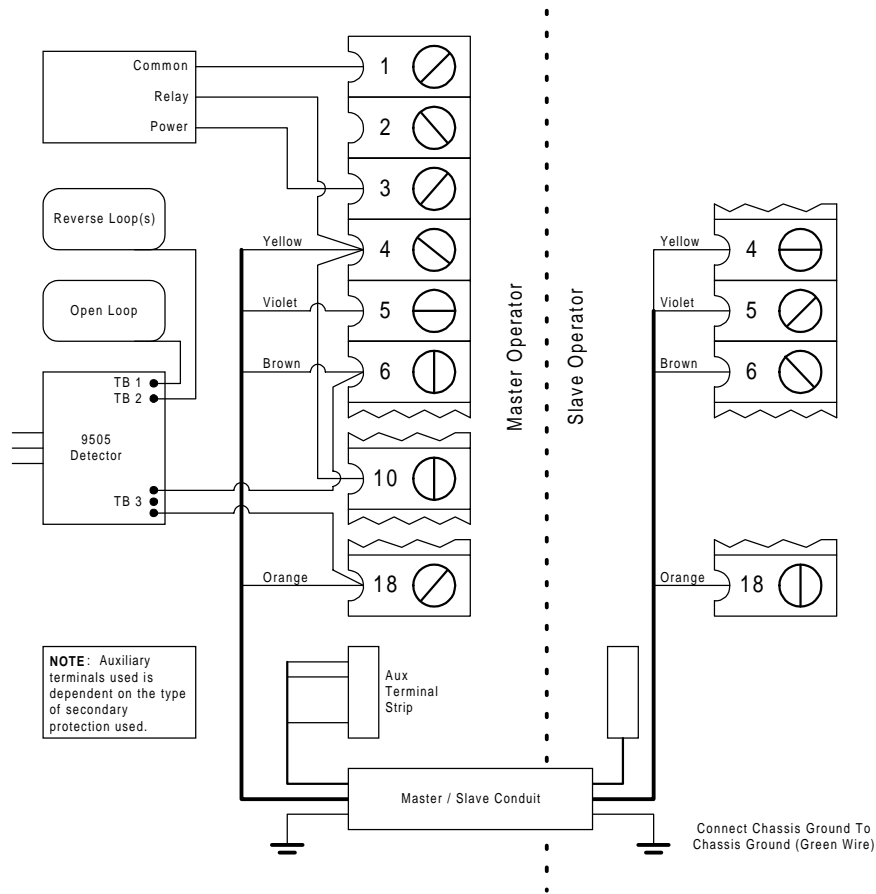

Figure 32
1. Connect the master / slave wiring (terminals 4, 5, 6, 18) as shown in figure 32. Be sure that power to both operators is OFF.
3. Plug the 9405 loop detector into the OPEN loop port. Connect the leads from the OPEN loop to TB 1. Connect the leads from the REVERSE loop(s) to TB 2. Connect TB 3 Normally Open (N.O.) to terminal 6. Connect TB 3 Common (C) to terminal 18.